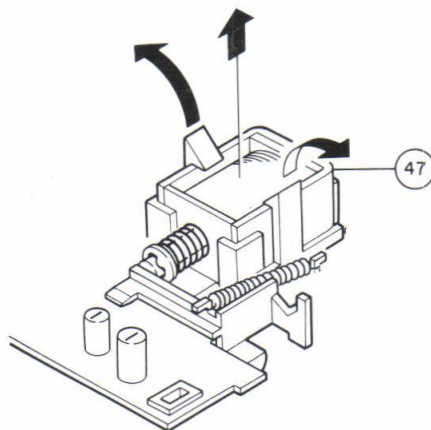

Fig. 8
After removing the Sensor PWB Ass'y, widen the projection securing the Bracket Ass'y (17) Solenoid Coil (47), and push out the Solenoid Coil (47). (Figure 8)